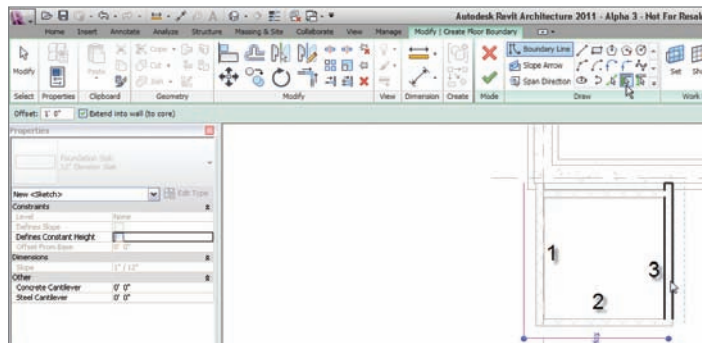

FIGURE 8.61 When picking the elevator shaft walls, be sure to include the 1'-0" offset.
13. Pick the three elevator shaft walls, as shown by the numbers in Figure 8.61.
15. Pick the elevator shaft walls, as shown in Figure 8.61.